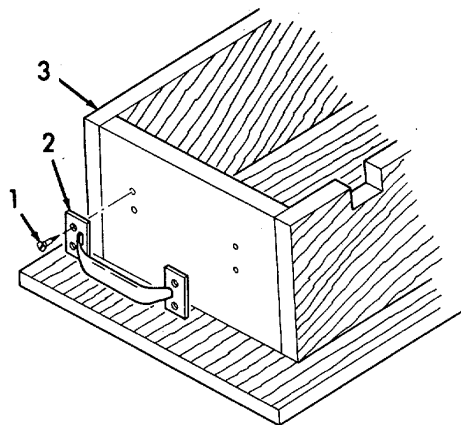

Figure 5-12. Handle, Replacement.
- (4) Replacement of the handle (refer to Figure 5-12).
- (a) Remove four screws (1) and handle (2) from tray (3).
- (b) Install handle (2) and secure with four screws (1).